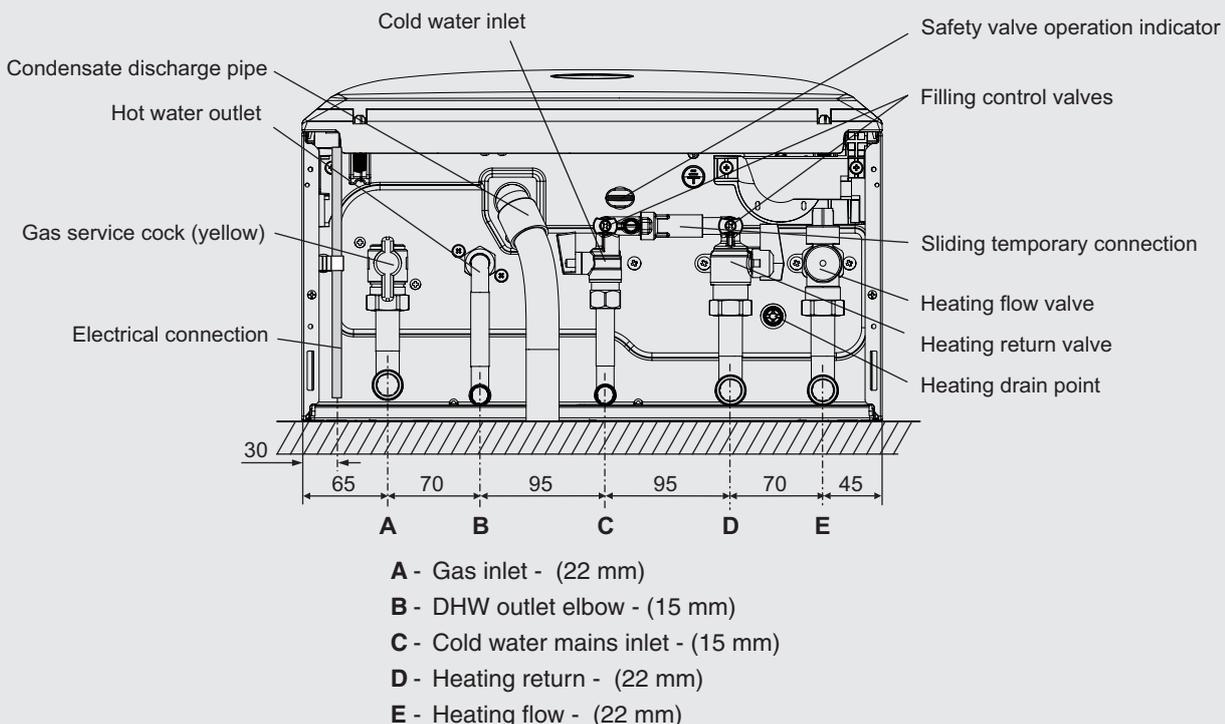

Fig. 5.4
#### 5.5 CONNECT THE PIPEWORK - Fig. 5.4
2. Fit the valves to the boiler connections as shown in Fig. 5.4 - note the colours of the operating levers.
4. Connect the flexible condensate pipe to the rubber connector as shown in Fig. 5.4. Using the adaptor supplied, connect the flexible pipe to the condensate drain. Ensure that the condensate discharge pipe is as required in Section 4.9.